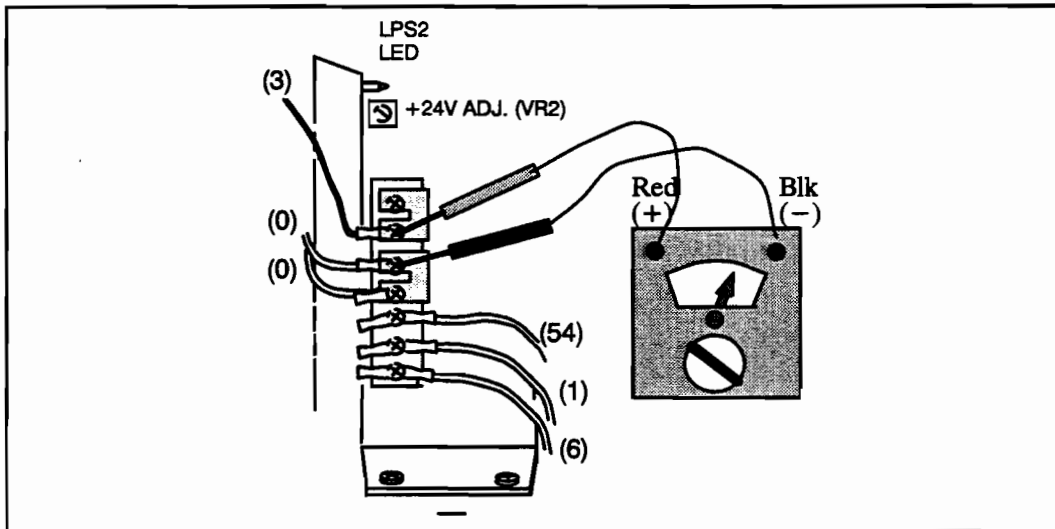

Figure 7-18. +24 V Power Supply Adjustment
1. Turn the plotter line switch to OFF (O).
4. Turn the plotter line switch to ON (I).
5. Connect the voltmeter probes to the two screw terminals as shown in Figure 7-18.
7. Remove the voltmeter probes and switch the plotter OFF (O).